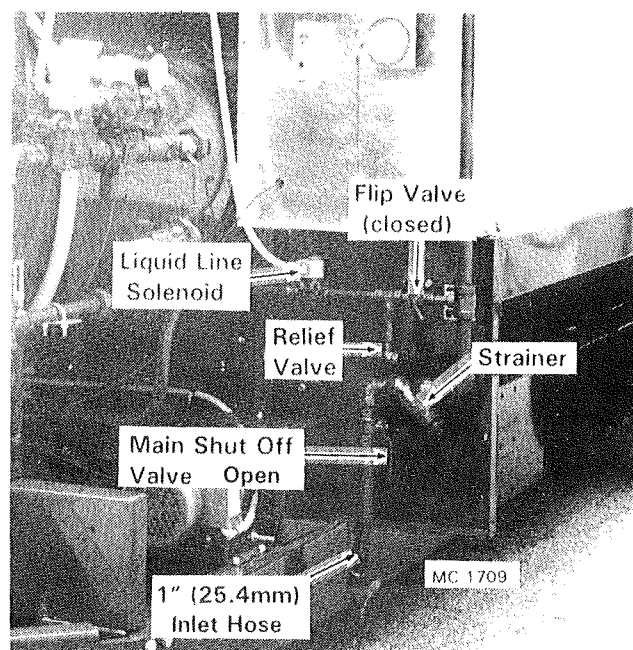

Figure 43
7. **LP Gas** - Remove the plug at the end of each strainer. See Figure 43. Remove and clean the screen in each strainer. Check flexible LP hoses for signs of fatigue. Replace as necessary.
2. Close the burner gas manifold hand valve for each burner (handle 90° to piping), see Figure 43.
3. To test burner(s) without grain in dryer, place a jumper wire with alligator clips between terminal (4) of the fan motor Start Button and the Air Pressure Light terminal with the yellow wire of the burner being tested. Both the switch and light are located on the Control Cabinet Inside Door. This jumper wire will by-pass the Air Pressure Switch.
4. **LP Gas** - Open the supply tank valve, the main shut off hand valve after the 1" (25.4mm.) inlet hose, and open (lift up) the ½" (12.7mm.) liquid line flip valve on each burner, see Figure 43.
9. If there is 115V at terminal V1, check to be sure that solenoid valves are operating. Two (2) persons will be required to make this test of the solenoid valves; (1) to operate the ignition switch and the other to be at the solenoid valves as there is only (5) seconds to check the solenoid valve.
Liquid propane burners have (1) ½" (12.7mm.) Liquid Line solenoid valve, (1) ¾" (19mm.) Low Fire solenoid valve, and (1) 1¼" (31.75mm.) High Fire solenoid valve, all located on the left side of the dryer fan orifice(s) when viewed from the rear of the dryer. See Figures 43, and 44.